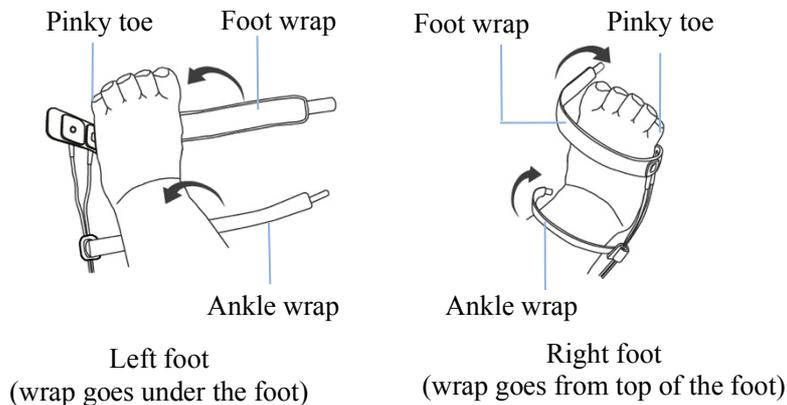

Figure 3.10B
① For proper placement on foot, place the sensors on the outside of the foot behind the pinky toe. Make sure the sensor touch the skin closely, then secure the foot wrap with Velcro (see Figure 3.10B and 3.10C). Do not over-tighten.